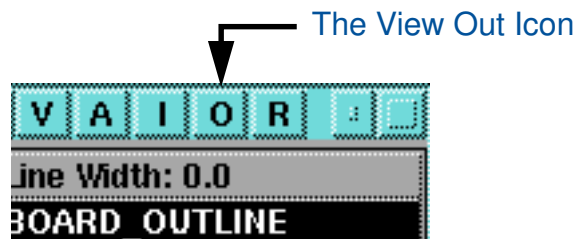

Figure 4-9. Locating the View Out Icon
6. Place the cursor on the View Out icon, shown in Figure 4-9, and click the Select mouse button twice, or until you see the basepoint icon at the location you entered in the previous step.